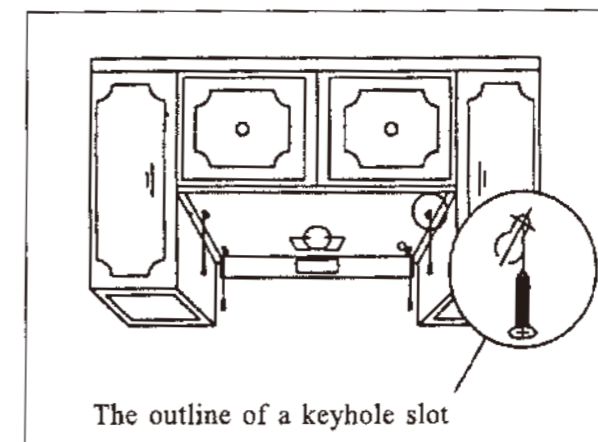

Fig. 9 Fasten screws to the bottom of the cabinet
3. On the bottom of the cabinet, mark the center position of the narrower ends of the four keyholes on the top of the range hood. Screw the four 5/8" - long wood screws (3/16" in diameter) on the cabinet loosely. (Fig.9)